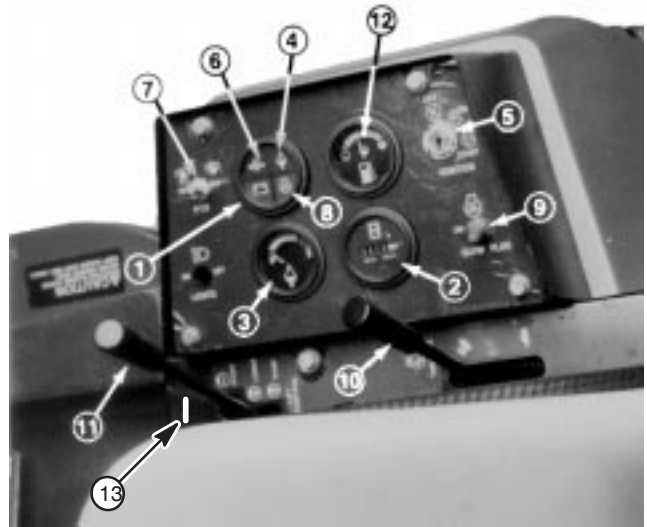

Figure 19
Amp Light (Fig. 19) — The amp light should be off when engine is running. If it is on, the charging system should be checked and repaired if necessary.
Hour Meter (Fig. 19) — Accumulated engine operating time registers on the hour meter.
Temperature Gauge and High Temperature Light (Fig. 19) — The coolant temperature gauge registers the coolant temperature in the system. If the temperature gets too high the engine will automatically shut off and the High Temperature Shutoff Light will light. When this happens, turn the ignition key off, check radiator for debris, check the fan belt and check the expansion tank for proper coolant level. The high temperature shutoff will automatically reset when the coolant temperature has reached a safe level.
Low Oil Pressure Light (Fig. 19) — If engine oil pressure falls below a safe level, the light glows. Stop engine and repair before resuming operation.
PTO Switch (Fig. 19) — Pull up on sleeve on toggle switch handle and move handle to ON to ENGAGE electric PTO clutch. Pull up on sleeve and move handle to OFF to DISENGAGE electric PTO clutch. The only time the PTO switch should be in the ENGAGE position is when the implement is down in operating position and ready to begin operation.
Ignition Key Switch (Fig. 19) — The ignition switch, which is used to start and stop the engine, has three positions: OFF, RUN and START. Rotate key clockwise — START position — to engage starter motor. Release key when engine starts. The key will move automatically to the ON position. To shut engine off, rotate key counterclockwise to the OFF position.
Glow Plug Switch and Indicator (Fig. 19) — Use to preheat engine cylinders prior to cold engine starting procedures — cylinders are preheated automatically during warm engine start operation. For cold starting, push switch lever upward and hold while watching indicator. Indicator will glow orange when the glow plugs are activated. Length of time necessary to preheat cylinders should be determined by atmospheric temperature; refer to Starting /Stopping Engine procedure.
Throttle (Fig. 19) — Throttle is used to operate engine at various speeds. Moving throttle forward increases engine speed — FAST; rearward decreases engine speed — SLOW. The throttle controls the speed of the cutter blades and, in conjunction with traction pedal, controls ground speed of the traction unit.
Hydraulic Lift Lever (Fig. 19) — The hydraulic lift lever has three positions: FLOAT, TRANSPORT and RAISE. To lower cutting unit to the ground, move lift lever forward into notch in seat platform — FLOAT. The FLOAT position is used for mowing and when machine is not in operation. To raise cutting unit, pull lift lever rearward to the RAISE position. After cutting unit is raised, allow lift lever to move to the TRANSPORT position. Cutting unit must be raised when driving from one work area to another.
Lift Lever Lock (Fig. 19) — Lock lift lever, in raised position, when performing maintenance on cutting unit.
1. Ensure parking brake is set, PTO switch is in OFF position and lift lever is in TRANSPORT or FLOAT position (Fig. 19). Remove foot from traction pedal and insure it is in neutral.
2. Move throttle control (Fig. 19) to full FAST position.
3. When temperature is below 15°C (60°F), push glow plug switch to ON position (Fig. 19) and hold for suggested interval.
4. Turn key in ignition switch to START position (Fig. 19). Release key immediately when engine starts and allow it to return to RUN position. Move throttle control to SLOW position.